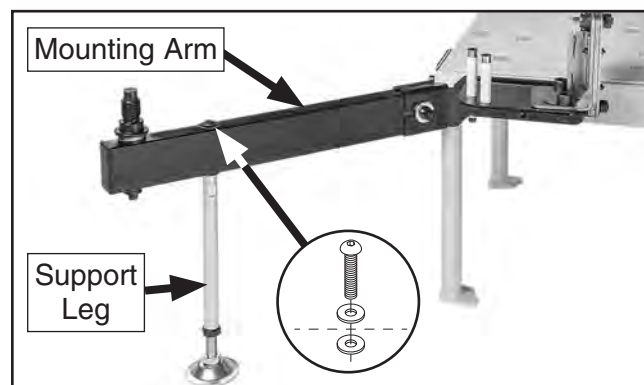

Figure 8. Support leg attached to mounting arm.
3. Attach support leg to mounting arm with (1) M8-1.25 x 70 button head cap screw and (2) 8mm fender washers (see **Figure 8**).